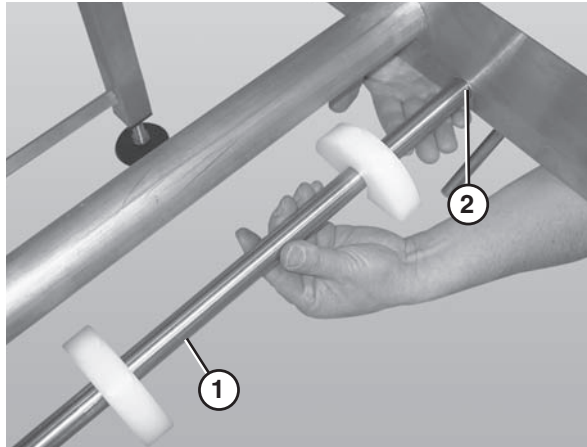

Figure 49
2. Slide the return shaft up (Figure 49, item 1) and through the large slot (Figure 49, item 2) in the frame (picture shown without the belt or wear strips).
3. Push up on the return shaft (Figure 49, item 1) and slide the notched end of the shaft through the small slot on the opposite side of the frame.